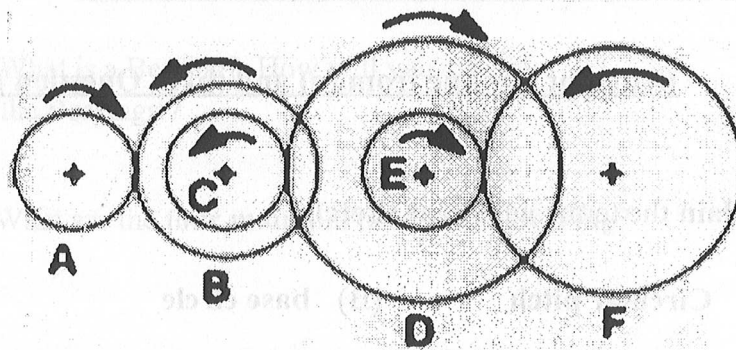

FIGURE -1.
- 7b. (i) What do you understand by 'gear train'? Discuss the various type of gear trains with neat sketches. How the velocity ratio of this train is obtained. (12)
- (ii) The gearing of a machine tool is shown in **FIGURE -1**. The motor shaft is connected to gear A and rotates **975 rpm**. The gear wheels **B, C, D** and **E** are fixed to parallel shafts rotating together. The final gear **F** is fixed on the output shaft. What is the speed of gear F? The number of teeth on each gear are as given below :